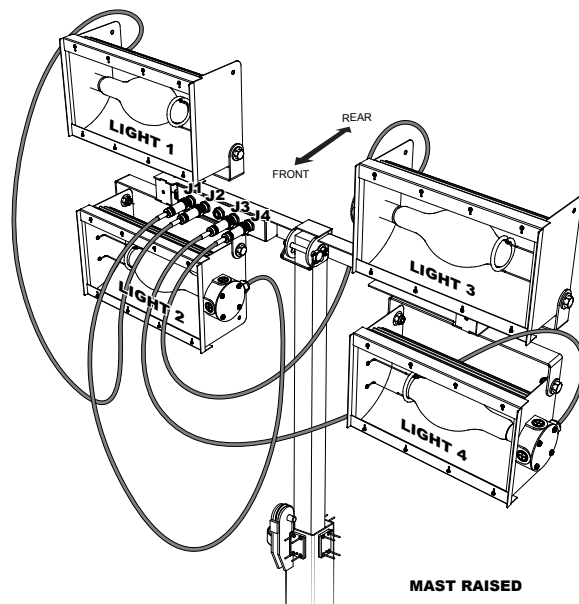

Figure 16. Light Power Cable Connections
4. Align the key tab (B) on the male connector with the slot or key (A) on the female connector and press together until seated. Connect the light power cables to the T-bar as referenced in Table 8 and Figure 16.
5. Secure all cable connectors by screwing the knurled locking nut of the male connector to the threaded portion of the female connector to ensure good contact between the two connectors. See Figure 16.